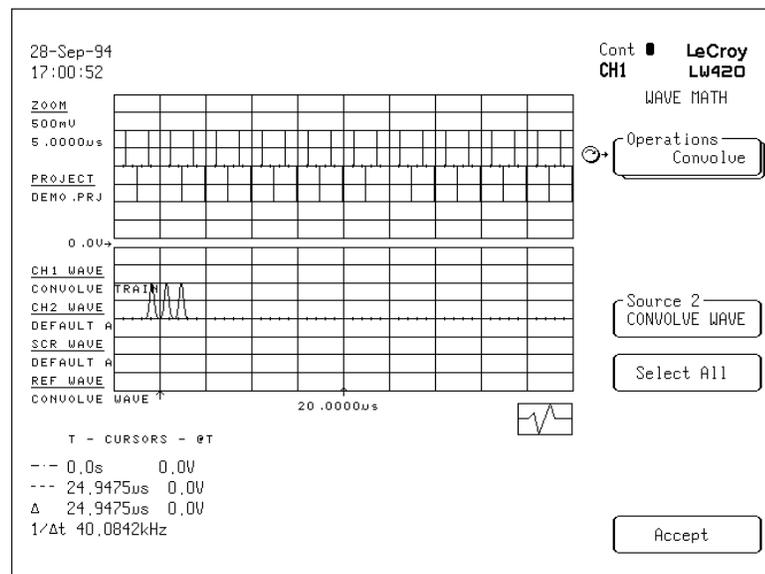

Figure 8.5 Dual Waveform Math
1. Push **2nd** followed by **WAVEMATH**—See figure 8.5